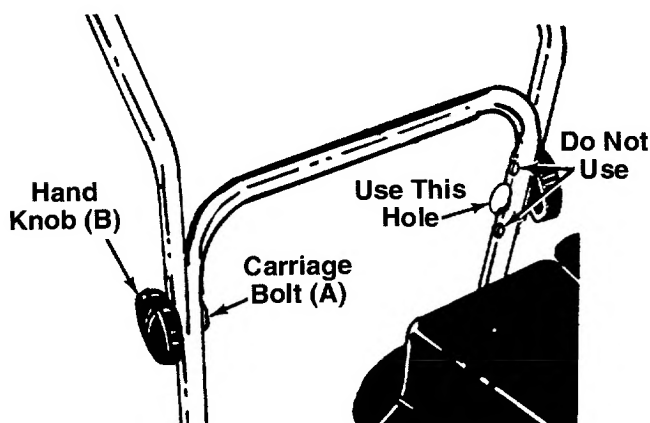

FIGURE 3.
Place the upper handle (D) over the lower handle, lining up the holes in the upper handle with the **middle** holes in lower handle. Secure with carriage bolts (A) and hand knobs (B). See figure 3.